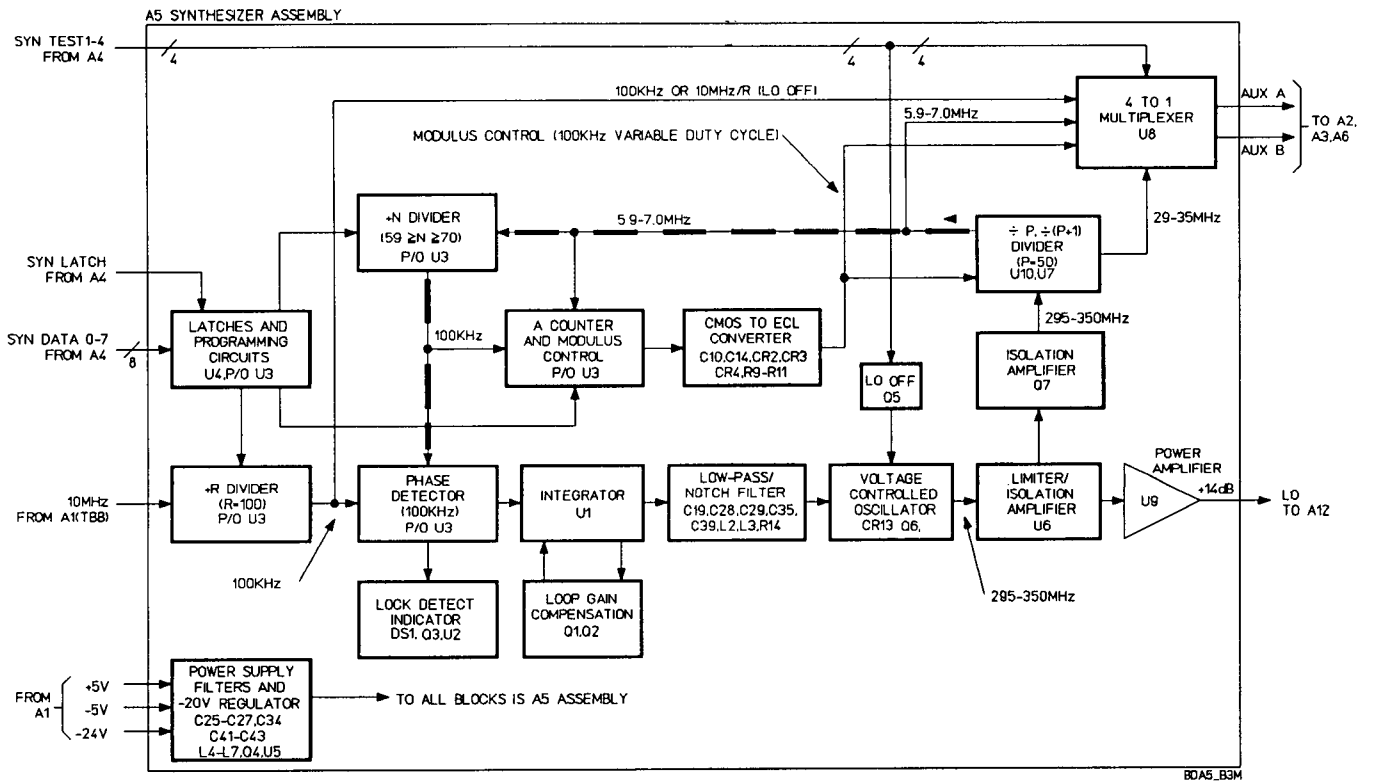

Figure 8-19. A5 Block Diagram
The A5 Synthesizer Assembly provides the 294.5 to 350.0 MHz local oscillator (LO) signal to the Microwave Module. The LO frequency is programmed by the A4 Microprocessor Assembly, and is referenced to the 10 MHz timebase signal. The synthesizer is based on a single phase-lock loop (PLL), which gives the high frequency wideband tuneable oscillator (VCO) in the synthesizer the same frequency accuracy and drift characteristics as the crystal oscillator timebase. The following theory of operation will begin with a general discussion of the overall operation of the circuit (refer to *Figure 8-19*), followed by a detailed circuit description.